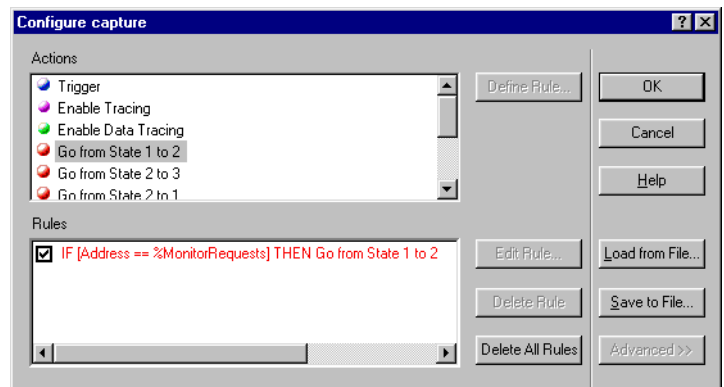

Figure 8-38 Configure capture dialog box
7. Click **Finish** to create this rule. The Configure capture dialog box is updated as shown in Figure 8-38.